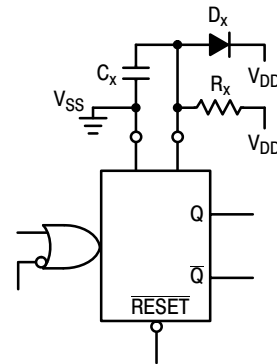

Figure 11. Use of a Diode to Limit Power Down Current Surge
7. If $C_X > 15 \text{ }\mu\text{F}$, use discharge protection diode per Fig. 11.
When a more rapid decrease of V_{DD} to zero volts occurs, the MC14538B can sustain damage. To avoid this possibility use an external clamping diode, D_X , connected as shown in Fig. 11.